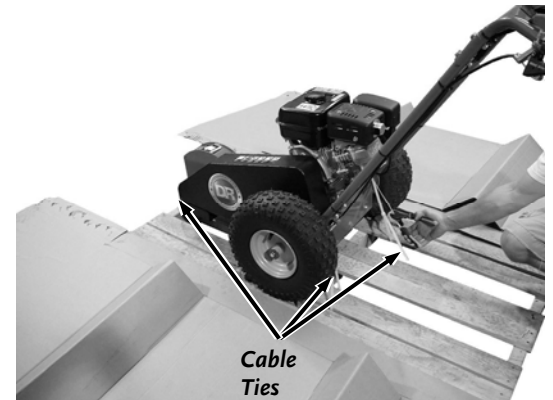

Figure 4
4. Cut all Plastic Straps that are securing the Stump Grinder to the Pallet, unlock the Brake by gripping the Brake Lever then releasing it and roll the Stump Grinder from the Pallet (**Figure 4**).